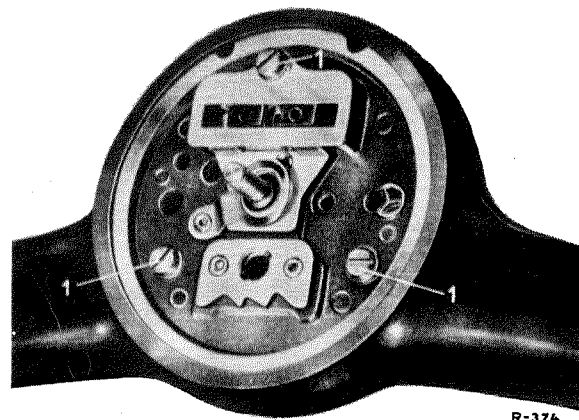

Fig. 54 — 3/4
8. Connect up the cable harness to the contact plate (see Fig. 54 — 3/5). When connecting up the individual cables, pay attention to the color coding. The connecting terminals on the contact plate are marked with colored spots.